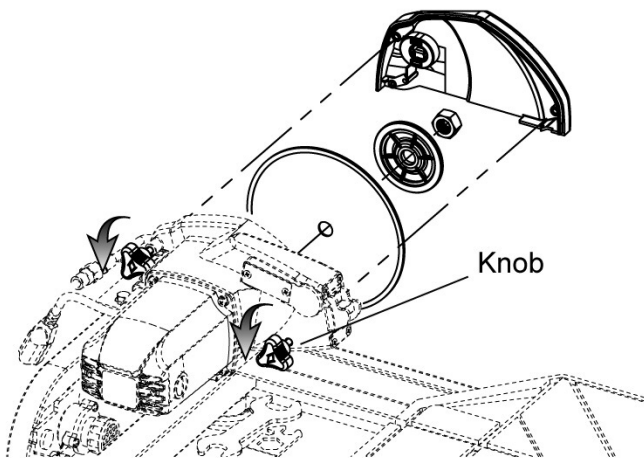

Figure 1
1. (See figure 1) Turn the two knobs on the inner blade guard counterclockwise until the guard is free.